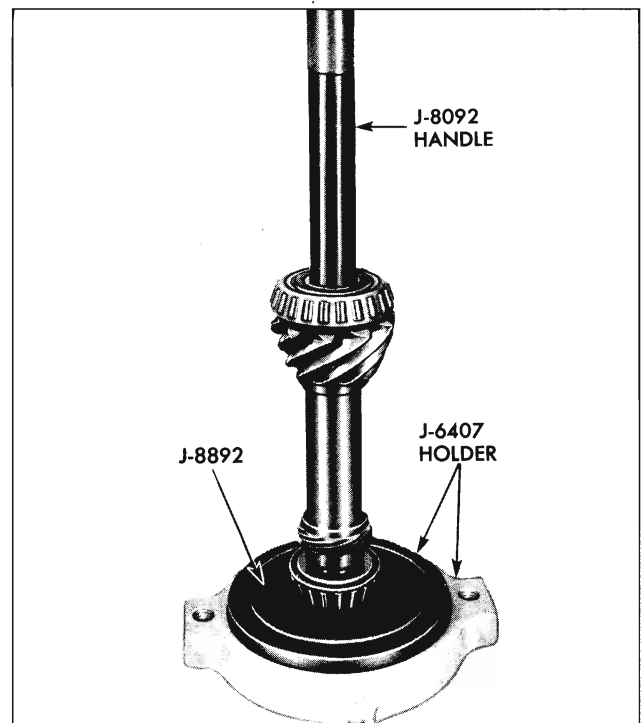

Fig. 4-44 Installing Front Pinion Bearing
3. Press on front pinion bearing using J-8892 in J-6407 holder and J-8092 handle (Fig. 4-44).